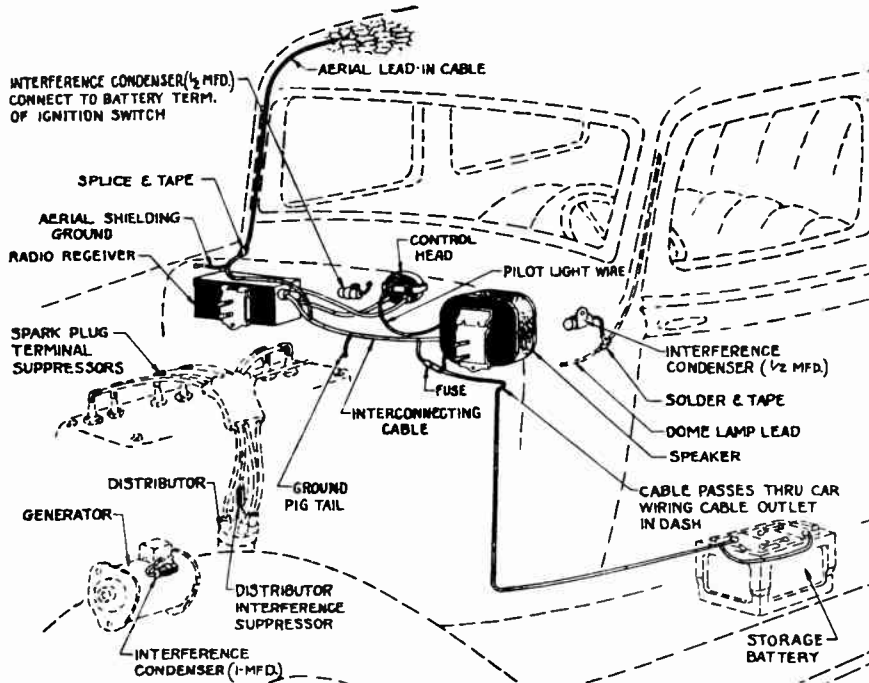

FIGURE 4
lead-in. The shielding must be grounded to the cowl panel by drilling a 1/8" hole where the hood overlaps and as close to the A pillar as possible, using the 8-32 bolt and nut supplied for this purpose. (See Figures 4 and 5.) Remove paint from around hole.
Place the fuse and fuse insulator in the metal fuse housing of the battery cable and connect it to the small fuse connector which branches out of the interconnecting cable close to the Speaker. The two (2) shield terminals at the fuse housing must be connected under the same terminal screw that is used to ground the speaker cable shield at the speaker. Figure 4 shows the general layout of the cables and connections.
(see Figure 4). Install a $\frac{1}{2}$ microfarad by-pass condenser, splicing and soldering it to the dome light lead as close as possible to the point where it enters the windshield pillar. The condenser must be fastened to the cowl panel in front of the hood line by drilling a $\frac{1}{8}$ " hole where the hood overlaps and as close to the pillar as possible, using the 8-32 bolt and nut supplied for this purpose. (See Figures 4 and 5.) Remove paint from around hole. Replace the car lighting fuse—test the lights and horn.